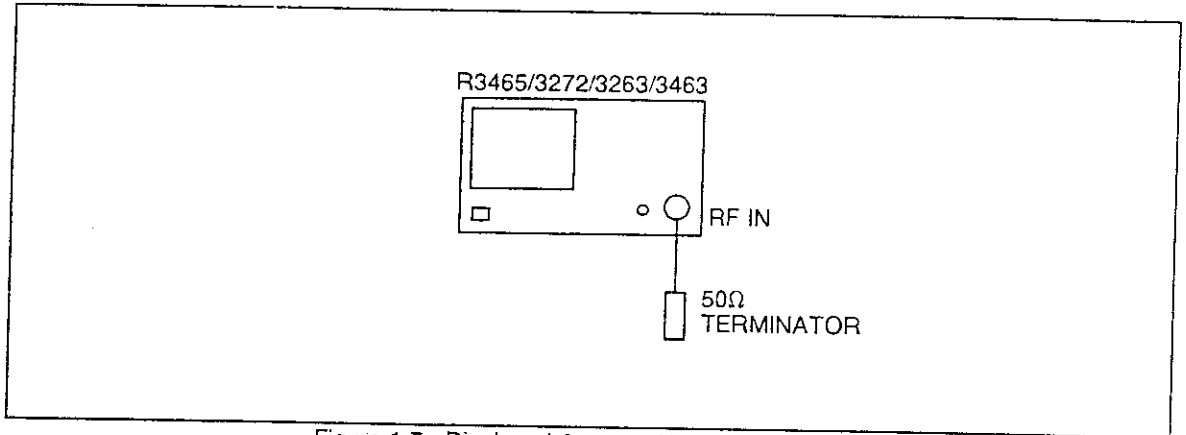

Figure 1-7 Displayed Average Noise Test Setup
(1) Connect the equipment as shown in Figure 1-7.